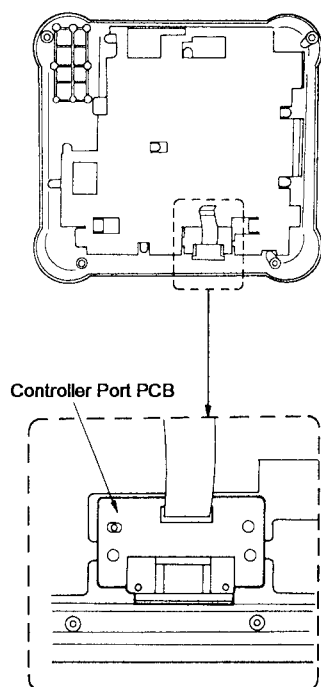

Figure 13
- (1) After removing the top case, the CD-ROM drive, the power transformer, the fan motor, the DRAM PCB, and the main PCB, gradually raise the Controller Port PCB as shown in Figure 13.